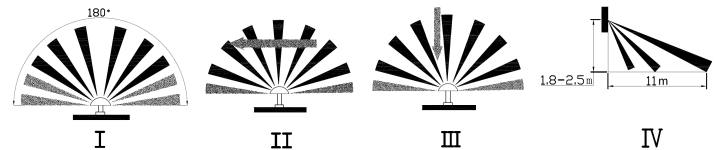

FIG. 2
The sensor is most sensitive to movement across the detection area as opposed to directly towards or away from the unit. Position the sensor so movement is across the sensor (See Fig 2)
2. Mount the fitting at a height between 1.8m-2.5m metres (see Fig.2).
3. Walk test the sensor, the sensor is more sensitive to movement across the detection area as opposed to directly towards or away from the unit (See Fig 2).